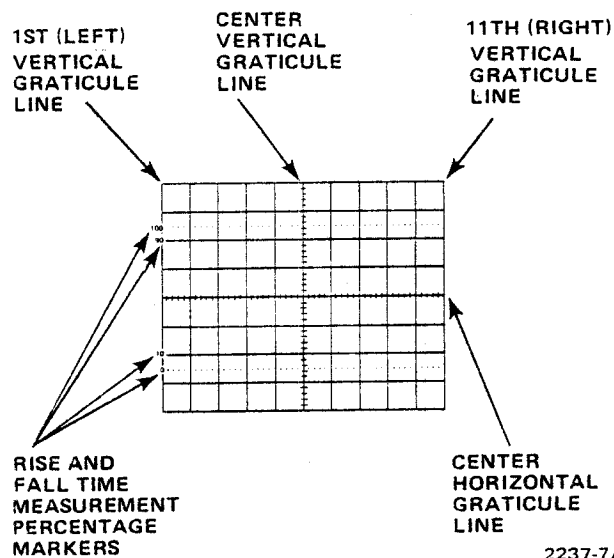

Figure 4-17 Graticule measurement markings
(1) To maintain the high frequency characteristics of an applied signal, high quality, low loss coaxial cable should be used. Also, the cable should be terminated at both ends in its characteristic impedance. If it is necessary to use cables with differing characteristic impedances, use suitable impedance matching devices.
(2) To maintain fast rise time pulse characteristics; use the shortest length of coaxial cable possible. Also, observe the cable criteria for high frequency characteristics in (1) above.
e. Graticule. The internal 8 X 10 cm graticule provides parallax-free measurements. The graticule area is divided horizontally and vertically into 1 cm divisions. Vertical gain and horizontal timing are calibrated to the graticule, so accurate measurements can be made from the crt. Figure 4-17 shows the graticule with its various measurement markings. The terminology shown is used throughout this manual in discussions involving graticule measurements. Note the numeric scaling markings on the left side of the graticule. These are used when making rise or fall time measurements.